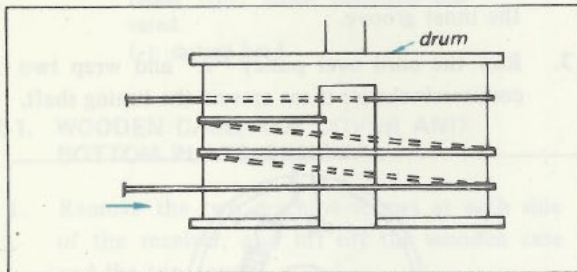

Fig. 2-7. Wrapping the dial cord
4. Run the cord over pulleys "B", "C" and "D", then wrap two clockwise turns around the drum from outer groove to inner groove as shown in Fig. 2-7.